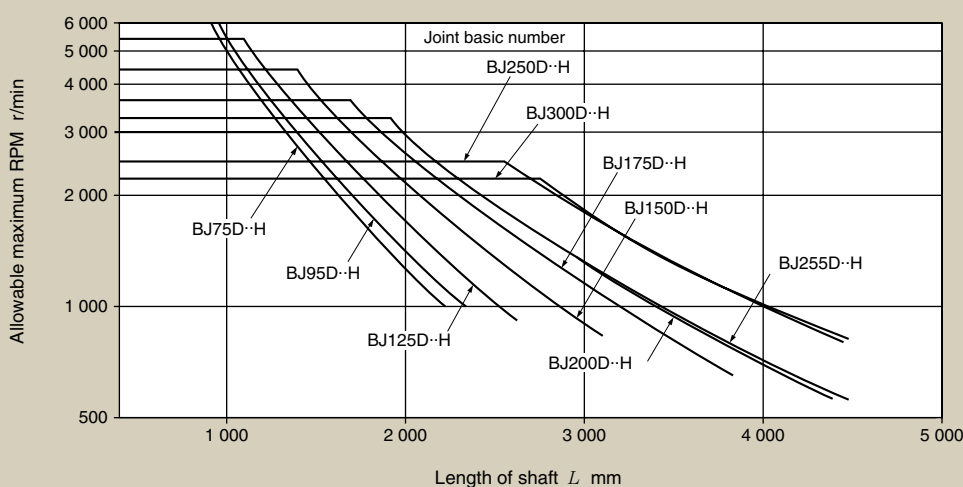

Fig. 10 Allowable RPM of shaft
2. Depending on the shaft length, the working RPM of a joint will be limited. Check the allowable RPM of the intended shaft against the data in Fig. 10.